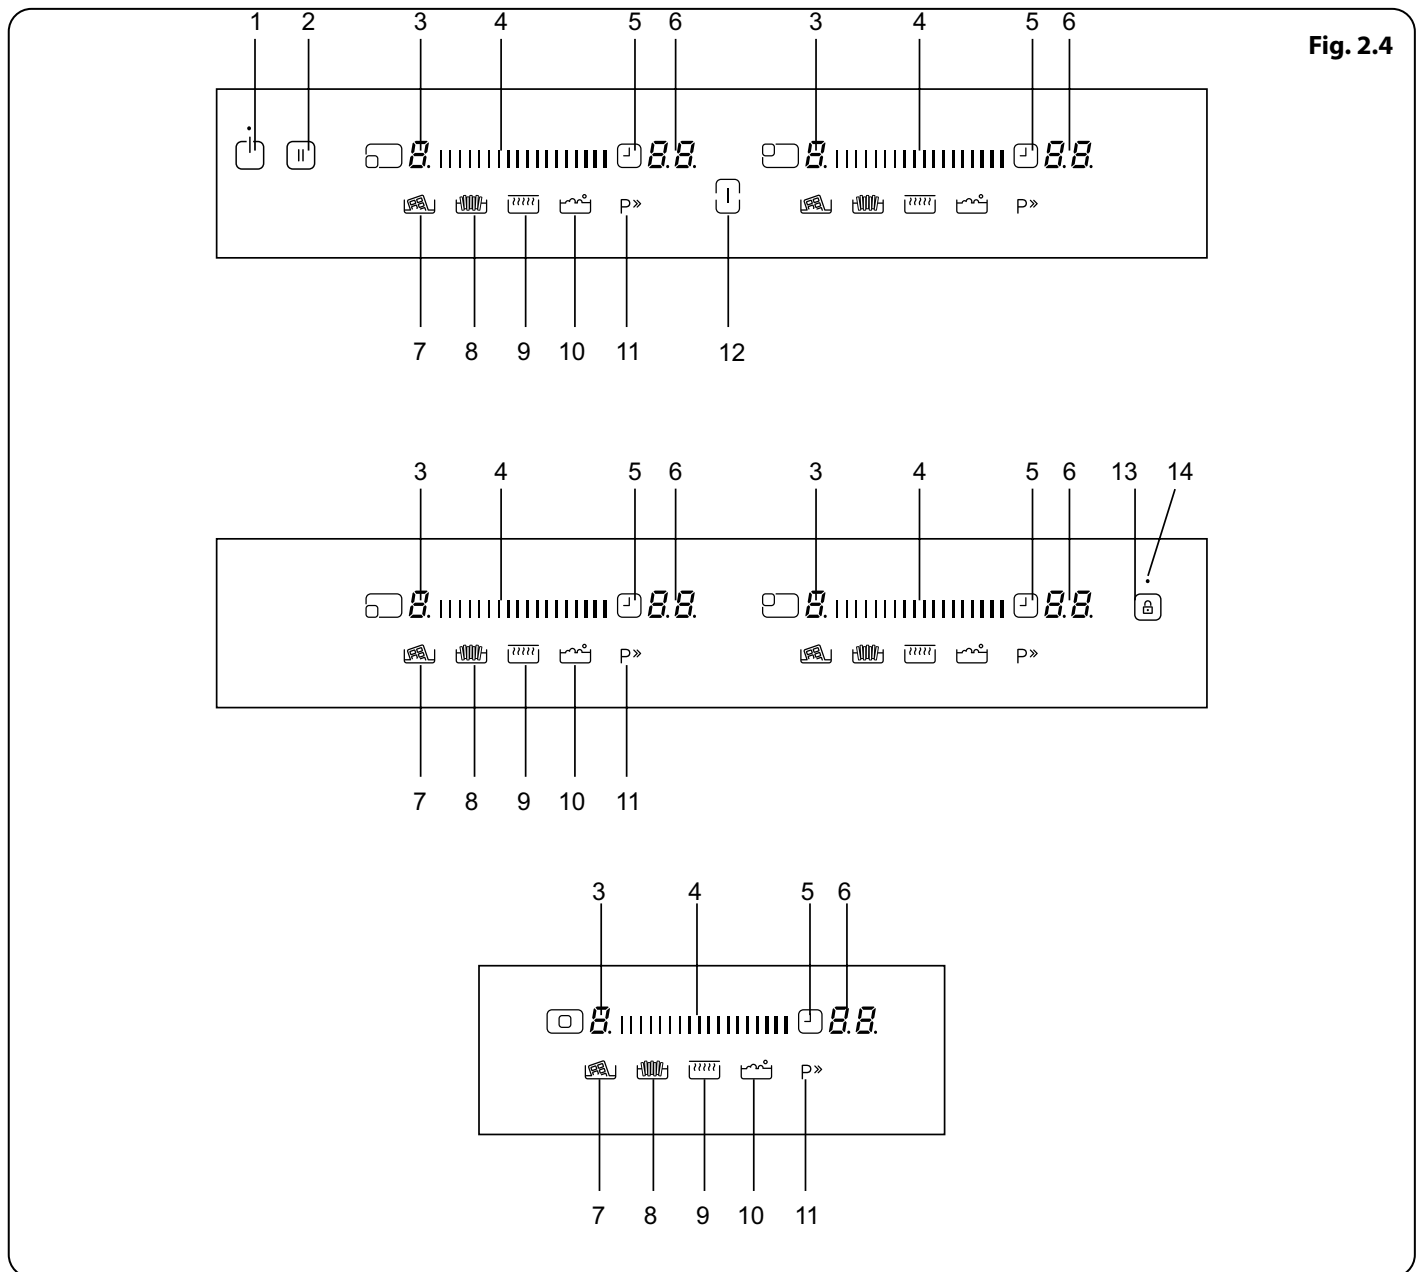

Fig. 2.4
Each zone is controlled via the touch sensitive controls with an audible signal when operated (**Fig. 2.4**).
2. Press the P (11) button once more. 'P' will show in the display (**Fig. 2.4**).